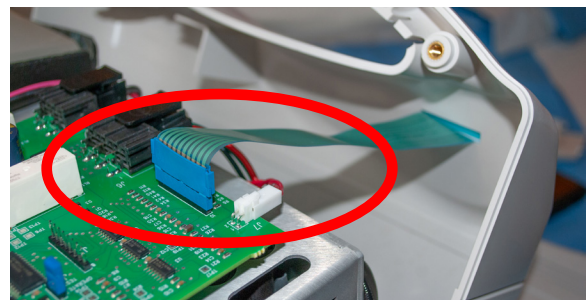

Figure 28 - Step 5 Disconnect ribbon cable
4. Disconnect the membrane ribbon cable from the control board (Figure 28).